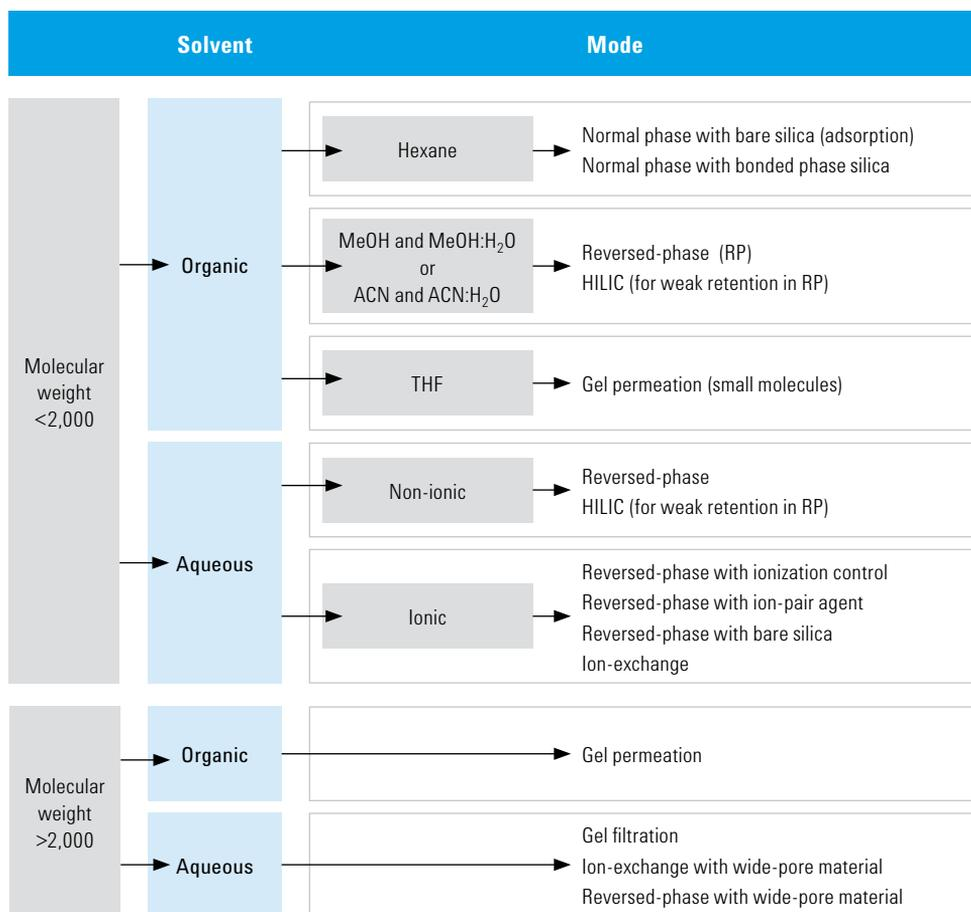

Figure 40. LC and LC/MS column selection by solvent and mode
The first thing you should do is to choose the HPLC mode. The mode is generally decided by the type and solubility of the analyte(s) of interest, its molecular weight (MW), the sample matrix and the availability of the appropriate stationary phase and column. Figures 40 and 41 outline the steps for evaluating the best choice of mode, based on the molecular weight of your compound and the solvents you'll be using.